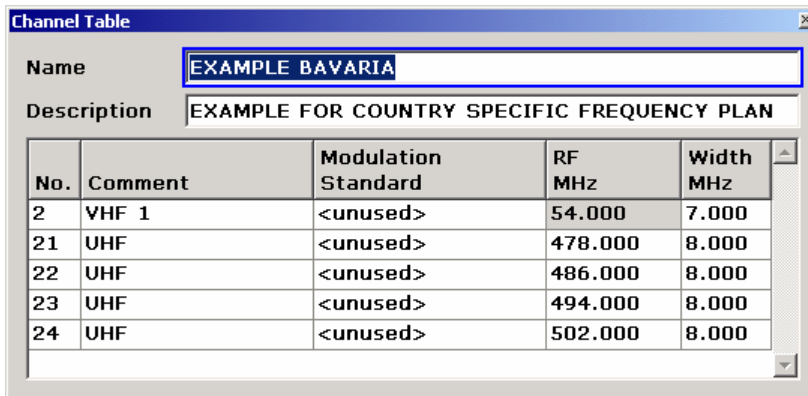

Fig. 2-65 Channel table "EXAMPLE BAVARIA" with entered frequency plan
Having finished the first step, you have build a channel table as shown in Fig. 2-65. Please note, that it is not possible yet, to do any measurements, as all channels are marked as **< unused >**. Nevertheless, you can use the EXAMPLE BAVARIA channel table as a base model for all channel tables required all over Bavaria.
4. The **Channel Table** dialog box is displayed (see Fig. 2-65).